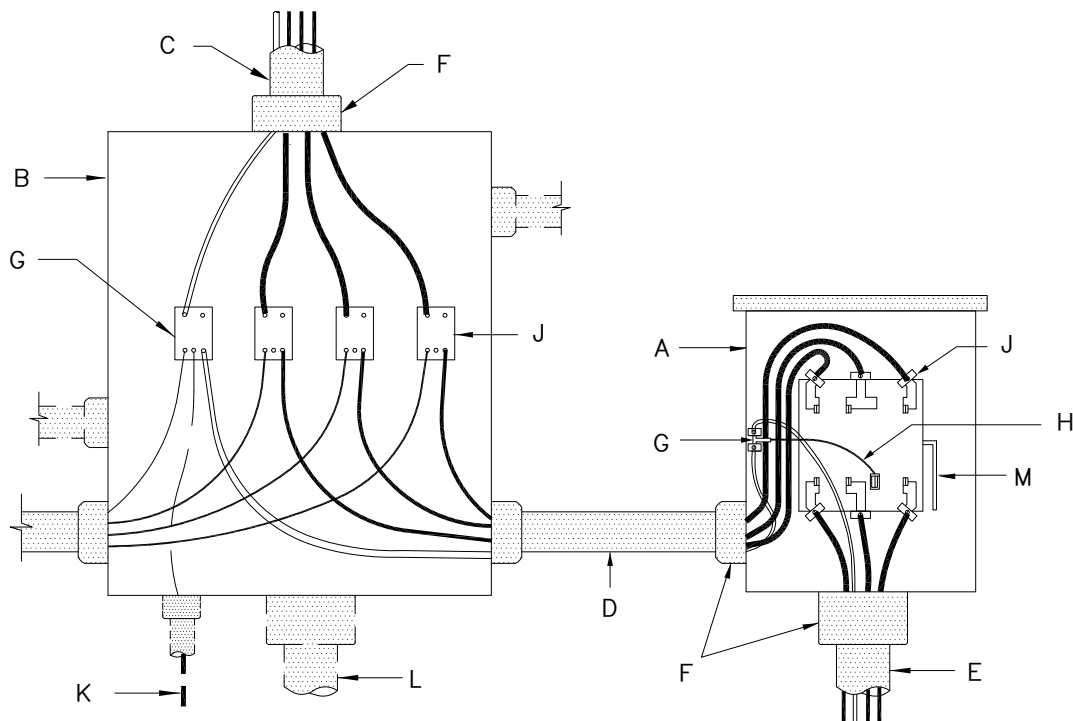

FIGURE 1
- FOR INSTALLATION OF A 3-PHASE, 4-WIRE DELTA 120/240V OR 3-PHASE, 4-WIRE WYE 120/208 OR 277/480V OVERHEAD OR UNDERGROUND SERVICE METER WITH A CABLE TAP BOX, CUSTOMER TO FURNISH, INSTALL AND MAINTAIN THE FOLLOWING EQUIPMENT (SEE FIGURE 1):